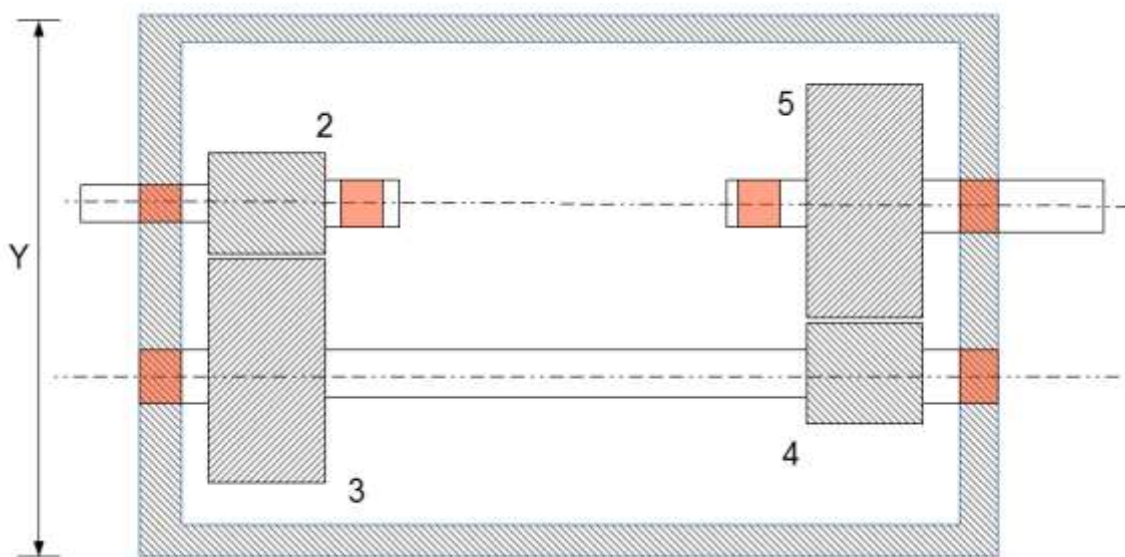

Figure 1 – Overview diagram of gear box. Bearing locations are shaded in orange. Gears are numbered 2 to 5.
From figure 1 the height of the gearbox needs to be used to figure out other aspects of the gears. The diametral pitch (P) or teeth per diameter length needs to be found. From the specifications Y has to be equal to 600mm. Y needs to be put in terms of the gear diameters, clearances and wall thickness.